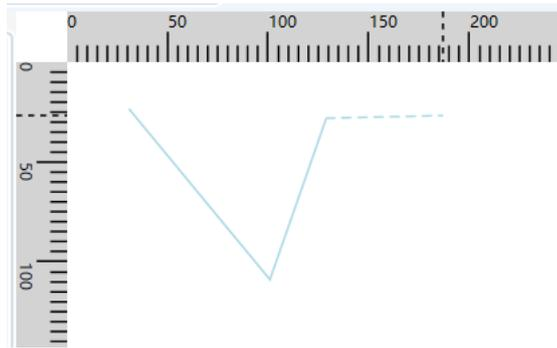

Fig. 4.3.2b Multi-segment Drawing
① Left-click to enter the drawing mode, and then left-click at any position on the canvas to determine the starting point of the first line segment. Move the mouse and click again to determine the end point of the first line segment, that is, the first line segment is drawn. Meanwhile, this point is also the starting point of the second line segment. Move the mouse and click again to determine the second line segment, and so on. As shown in Fig. 4.3.2b.